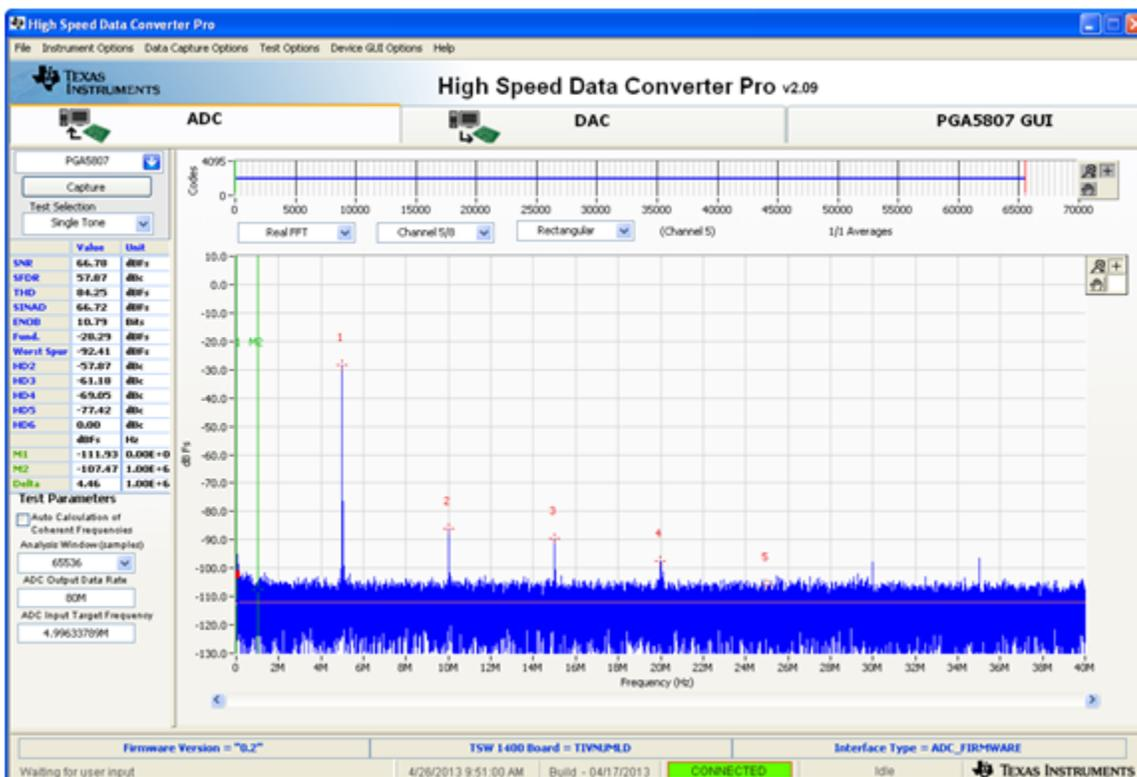

Figure 51. PGA5807+ADS5296 Gain Test Capture 4
- Click on the *ADC* tab and press the *Capture* button to see the result shown in Figure 51. Again, take the difference in the *Fund.* value shown here to previous capture. This difference should equal the difference in **GAIN[x]** value that was set, or 18dB.